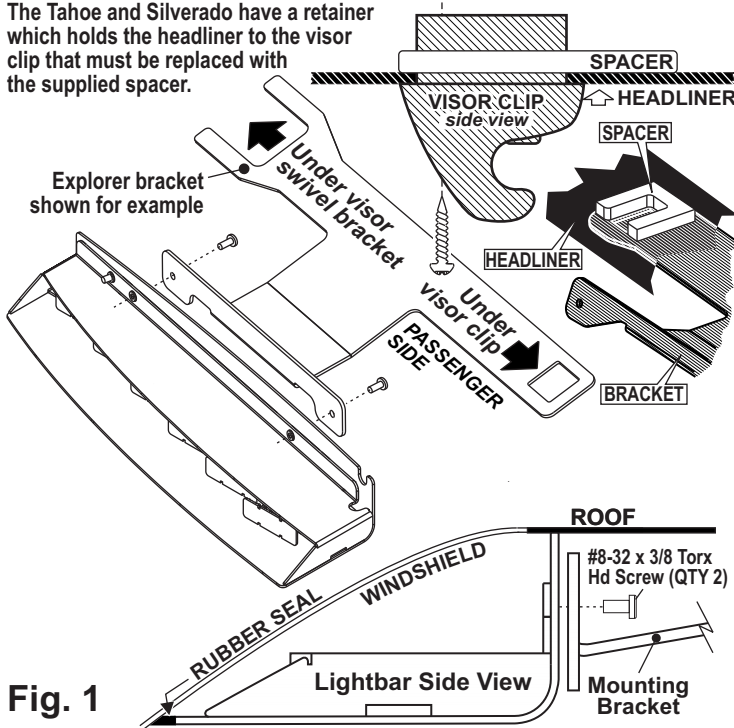

Fig. 1
3. Secure the bracket to the Inner Edge housing using hardware provided (Fig. 1).
4. Position the keyed opening of the mounting bracket directly under the location of the visor clip removed in step 2 and remount the visor clip in its original location using the original hardware (Fig. 1). Silverado & Tahoe require a spacer (Fig. 1).
Figures 1 thru 3 show the driver side of the interior of the vehicle, shown looking up at the roof.
1. On the driver side **visor swivel bracket**, carefully pry the plastic cover off the front of the bracket (Fig. 1). The lightbar mounting bracket will sit in the space that the cover occupied. **NOTE: Pry the cover off using two flat blade screwdrivers on each side to avoid braking the cover. The cover will not be used but should be saved in case you wish to remove the lightbar in the future.**
2. Remove the **swivel bracket** mounting clip (located under the cover you removed in step 1) and lift the **swivel bracket** assembly out. Install the supplied fastex grommet into the hole in the roof sheet metal which the clip snapped into. Reinsert the **swivel bracket** assembly (Figs. 1 & 2).